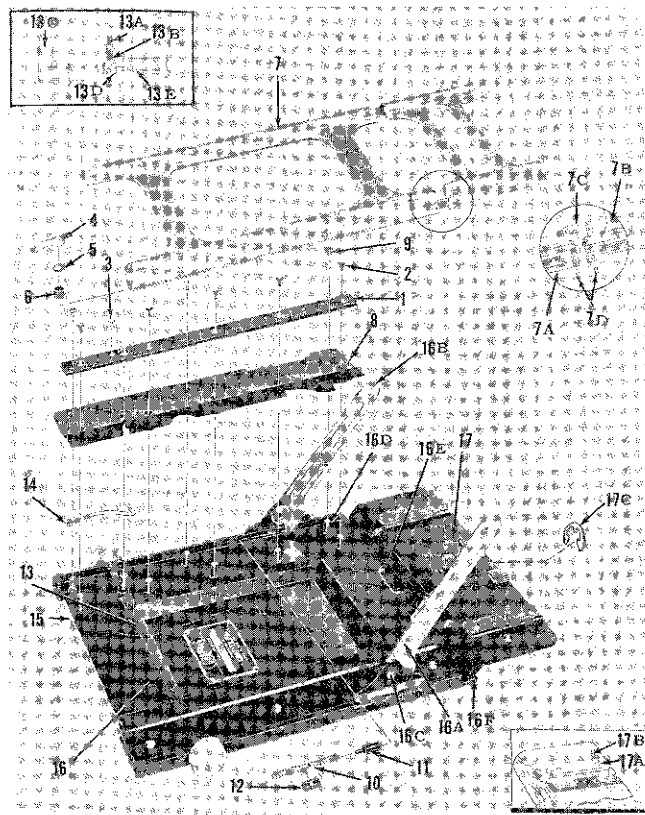
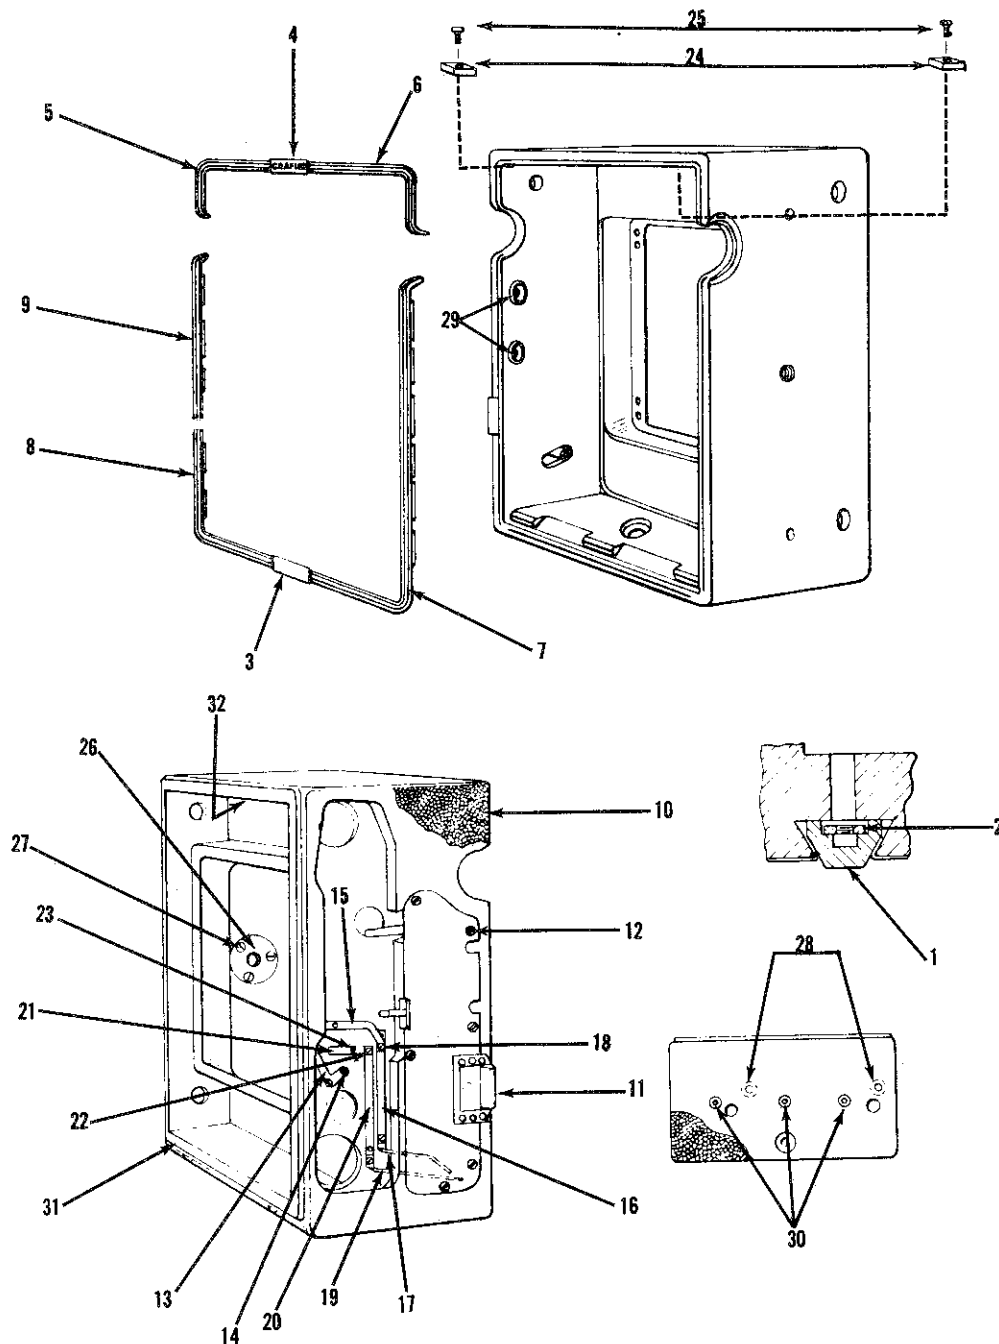

Figure 20. Bed Complete
Figure 21. BODY COMPLETE
Key to Figure 20.
c) From the bed hinge, remove two wood screws (38). Remove four yoke guide case screws (39) that are screwed into machine nuts (2, figure 21) located in the case feet (1).
- b) Remove the bed section guide (1, figure 20) by removing machine screws (2).
- c) Rack the yoke assembly (7) forward until the rear case yoke section is free of the hinge guides. Lift the yoke assembly (7) from the bed.
- d) Remove block screws (9, figure 20) from the bed block (8). When the bed block is lifted from its position care should be taken so that the bed brace spring (10) does not throw and lose the bed brace plunger (11).
- e) Swing the yoke lock lever (4, figure 20) clockwise so that the special fillister head screw (3) can be removed. Unscrew the yoke lock lever (4). Remove the flat washer (5) and the yoke lock sleeve (6).
- g) Lift the pinion assembly (13) from the bed. Do not lose the focusing pinion springs (14) at each side.
a) The case section guide (17A, figure 20) should have the sliding grooves wiped with a film of the above lubricant.
b) Assemble the case section guide (17A) to the hinge assembly (17) by using two dowel pins (17B) in each guide.
Pinion assembly (13, figure 20) should be lubricated by wiping the small diameter of the shaft at each end with a reasonable amount being applied to the helical gear teeth.
The yoke assembly (7, figure 20) should have its guide edges wiped with lubricant and a reasonable amount applied to the gear teeth. Roll the yoke assembly (7) over the pinion assembly (13) to distribute the lubricant evenly and wipe off all excess.
a) To assemble the bed block (8, figure 20) insert the stud of bed brace plunger (11) into the bed brace spring into space provided on the under side of the bed block and hold in position by use of the spring retaining clip (12) that clips around the spring and over the rib on the bottom of the block. Check the position of the focusing pinion spring (14) so that it will fit in the block cavity that is provided. Lower the block into position over the guide and block screw bushings (16D). Be sure that the edge of the leather is tucked in between the block and the bed. Assemble three bed block screws (9).
a) Assemble the right bed section guide (1, figure 20) and attach with five machine screws (2).
b) Insert the yoke lock sleeve (6) and assemble the flat washer (5), if required. This flat washer is a spacer washer that may or may not be needed, depending on the position of the yoke lock lever when it is assembled.
c) Assemble the yoke lock lever (4) and tighten. Note the position and if the lever does not tighten in convenient position it should be removed and the thread started in a different position; it has a triple
d) After the yoke lock lever position has been found to be satisfactory, assemble the special fillister head screw (3).
b) Position the left bed section guide and assemble five machine screws (2, figure 20).
c) With the bed section guide screw (2) loosened on both sides, slide the yoke back so that the case section will partially engage in the case section guide (17A). This will center the front section in relation to the case section. Draw both bed section guides (1) together evenly with the fingers and tighten the guide screws (2) on both sides.
a) Place the bed in position in the camera case and reassemble four yoke guide case screws (39, figure 3) that are screwed into the machine nut (2, figure 21) located in the foot (1). Assemble two wood screws (38, figure 3).
b) Engage each bed brace (16A and 16B, figure 20) with its proper bed brace plate (34 and 35, figure 3). Allow the bed brace arm to slide freely in the slot and assemble the mounting screw in the old mounting hole.
c) Next check the top surface of the yoke assembly (7, figure 20). If the top surfaces of the yoke guide are not level, the front standard will not slide smoothly on the yoke. If necessary, shim the case section guide as follows:
1. Remove the release slide plate (11, figure 21).
2. Remove the right focusing knob escutcheon (51, figure 3) that is held by escutcheon pin (52). Pry up the right moulding (9, figure 21) and the right edge of the lower right moulding (8).
6. Remove six wood screws (12, figure 21) that secure the body release plate assembly (11), and remove the plate assembly.
2. Inspect the short and long switch contacts (17 and 19, figure 21). These contacts complete the focal plane synchronization circuit and are closed by pressure action of the long lever inside the plate that has the insulated spring terminal bushing. If this insulated bushing has become worn so that the lever might make contact with the short switch contact (17) the body release plate assembly (11) must be replaced.
1. Position the body release plate assembly (11, figure 21) and assemble six wood screws (12).
1. To remove the side tripod socket (26, figure 21) it is first necessary to remove the right bed brace plate (35, figure 3) as described in paragraph V.B.2. Remove the three flat head wood screws (27, figure 21) securing the tripod socket.
Key to figure 21.